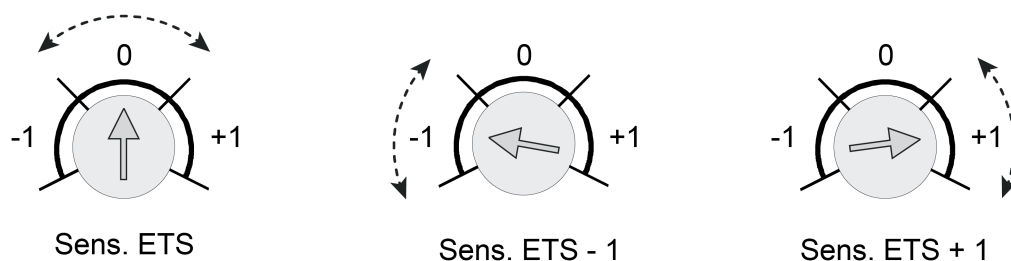

Figure 19: Example of the adjustment ranges of the sensitivity adjuster on the device
- (7) Slide button for local operation (setting of the operating mode and activation of the programming mode)
- (8) Sensitivity adjuster
- (10) "ON" button for operating mode switchover and to activate the programming mode
- (11) "OFF" button for operating mode switchover
The sensitivity of the motion detection, which is a gauge for the range of the PIR evaluation, can be configured separately in the ETS for the both PIR sectors and can also be adjusted directly on the device after commissioning. For this purpose, the device has the adjuster (8) that makes it possible to change the configured sensitivity setting of all PIR sectors. The sensitivity can be reduced or increased by a maximum of one level using the adjuster (Figure 19).